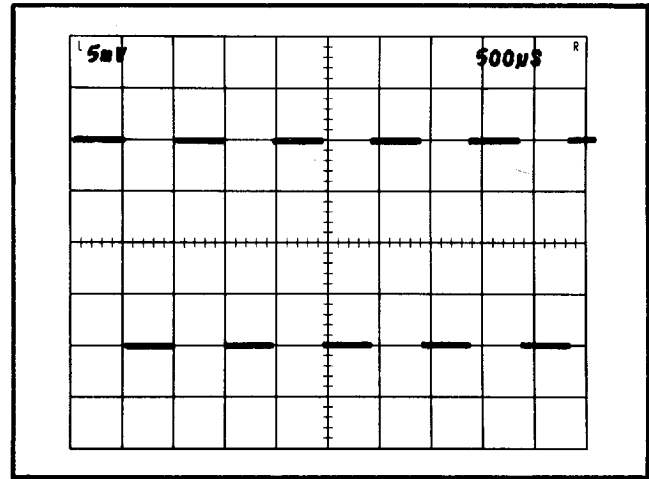

Fig. 2-1. Oscilloscope display when checking amplifier Gain.
8. Check the CRT display for four divisions of vertical deflection (see Fig. 2-1). If necessary, adjust the front panel GAIN for four divisions of vertical deflection.